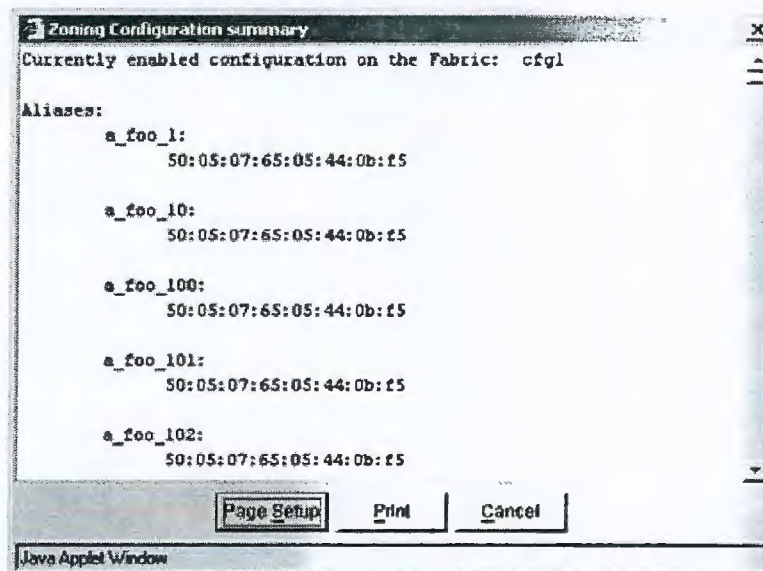

Figure 8-1 Zone Configuration Summary
2. Select **File, Print Summary**. The **Zone Configuration summary** dialog box appears. An example of the **Zone Configuration summary** is shown in Figure 8-1.
5. Select **Actions, Enable Config** to activate a configuration. The **Enable Config** dialog box appears (Figure 8-1).